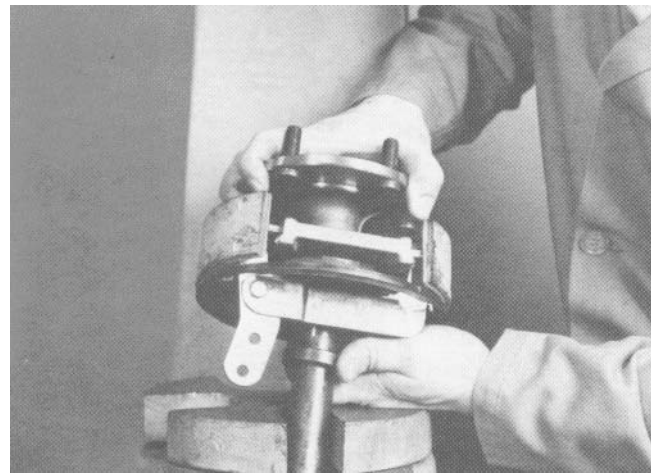

Figure 14
3. Slide a new bearing retainer on the axle shaft. Support the shaft and retainer in a suitable press and push the bearing retainer firmly against the bearing (Fig. 14).